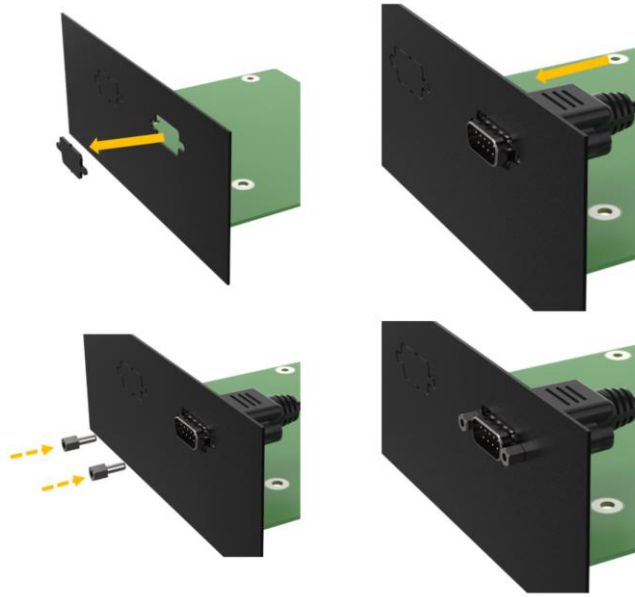

Figure 3-12: RS-232 DB9 Cable Installation
Step 3: Knock out the reserved holes on the chassis and Secure the DB9 end of the serial cable to the panel. **(Figure 3-12)**